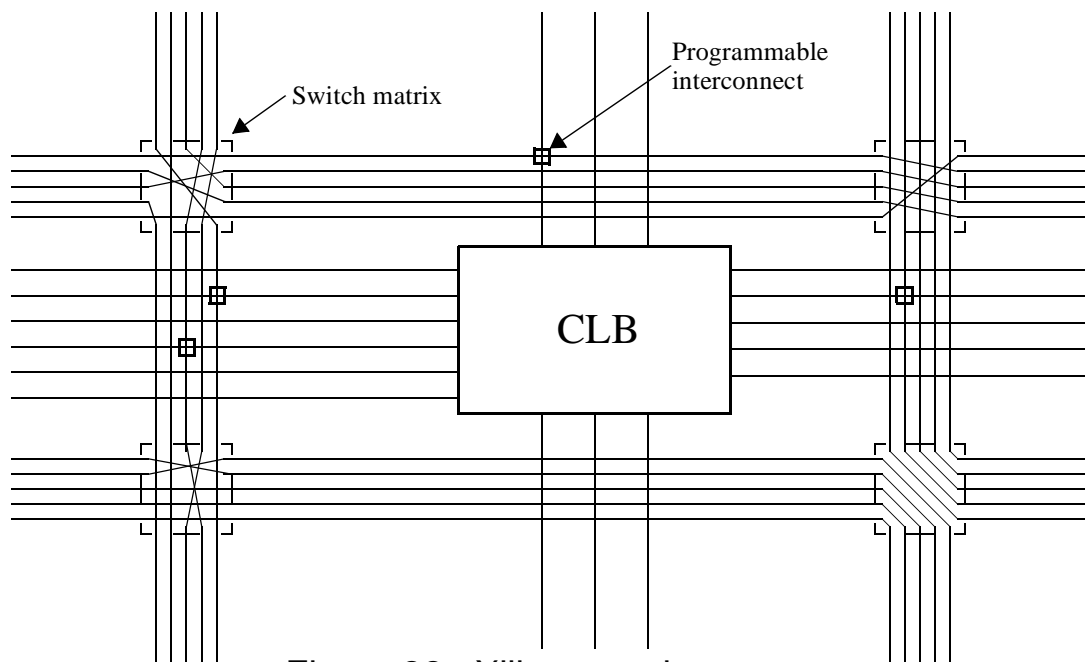

Figure 22 : Xilinx crossbar connect
- The connection blocks allow any line to be connected to any other line. This is implemented via a switching matrix. Figure 22 shows a conceptual view of the interconnect for the Xilinx FPGAs.